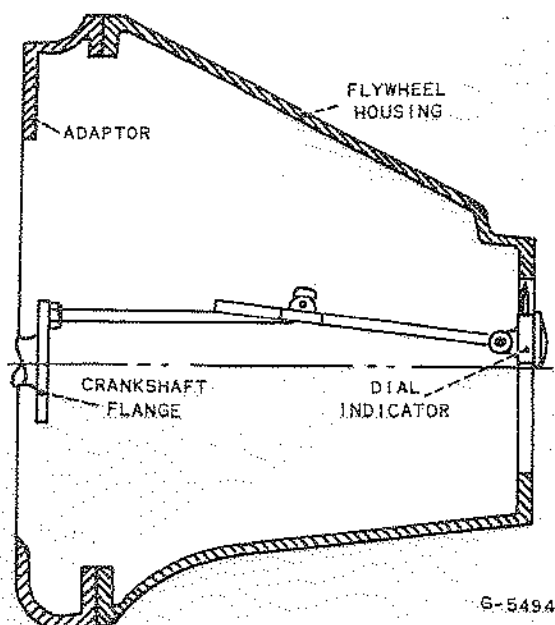

Fig. 53 - Checking flywheel housing alignment
6. Place the flywheel housing adaptor (Fig. 53) in position over the locating dowels in the crankcase. Install the attaching capscrews and tighten up evenly to torque loadings according to size of bolt (Sect. "A" Page 1)
In the event a new crankcase, flywheel housing, or adaptor is to be fitted it will be necessary to check the alignment as shown in Fig. 53, as follows.